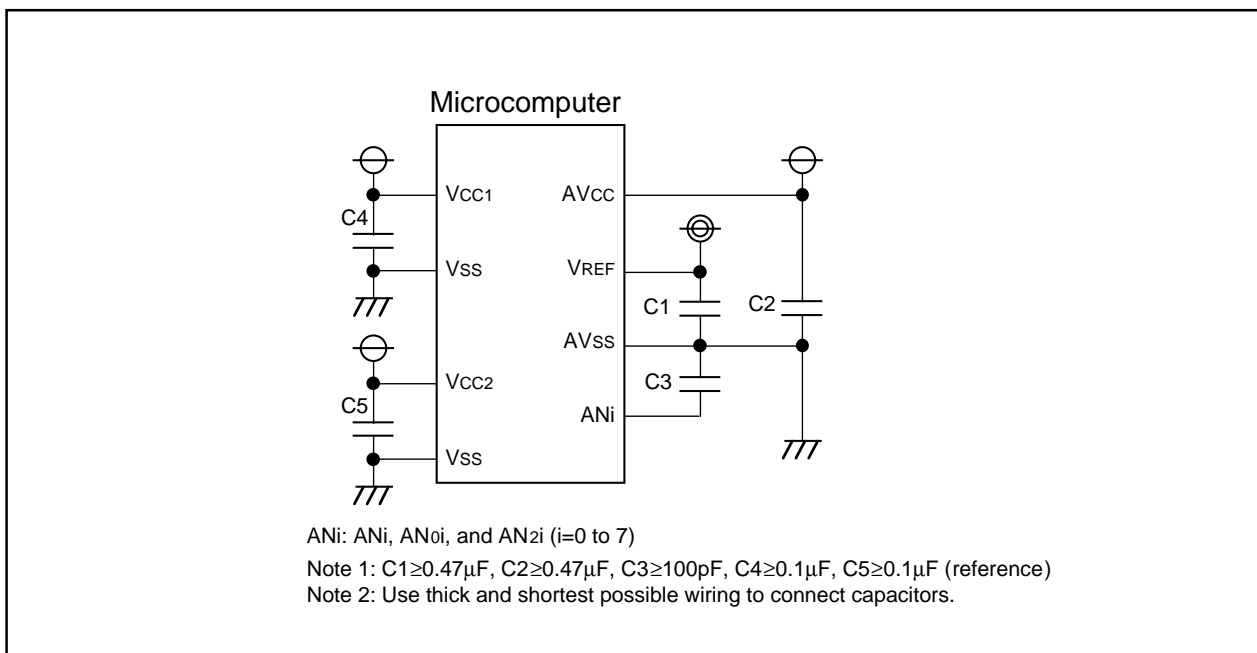

Figure 1.22.11. VCC, VSS, AVCC, AVSS, VREF and ANi Connection
- (1) Make sure the port direction bits for those pins that are used as analog inputs are set to "0" (input mode). Also, if the ADCON0 register's TGR bit = 1 (external trigger), make sure the port direction bit for the ADTRG pin is set to "0" (input mode).
- (2) When using key input interrupts, do not use any of the four AN4 to AN7 pins as analog inputs. (A key input interrupt request is generated when the A-D input voltage goes low.)
- (3) To prevent noise-induced device malfunction or latchup, as well as to reduce conversion errors, insert capacitors between the AVCC, VREF, and analog input pins (ANi (i=0 to 7), ANoi, and ANzi) each and the AVSS pin. Similarly, insert a capacitor between the VCC pin and the VSS pin. Figure 1.22.11 is an example connection of each pin.
- (4) If $V_{CC2} < V_{CC1}$, do not use AN00 to AN07 and AN20 to AN27 as analog input pins.
- (5) If the CPU reads the ADi register (i = 0 to 7) at the same time the conversion result is stored in the ADi register after completion of A-D conversion, an incorrect value may be stored in the ADi register. This problem occurs when a divide-by-n clock derived from the main clock or a subclock is selected for CPU clock.